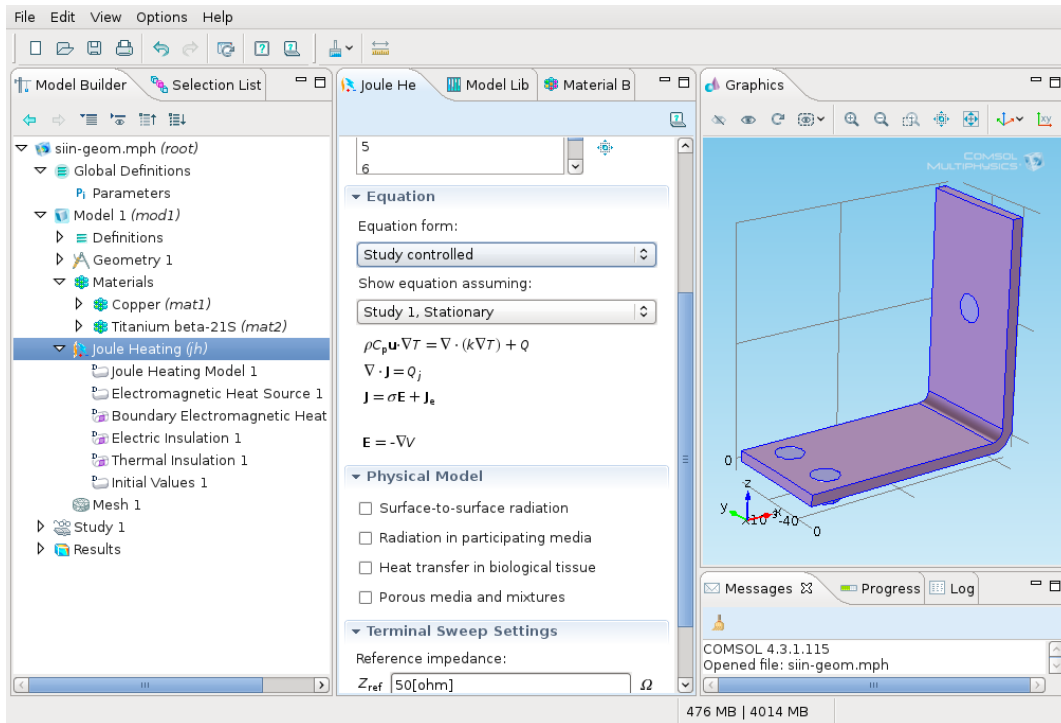

Figure 31: *Joule Heating*.
- The default form of the equations depends on the simulation type specified in the *Model Wizard*. In the case of the *Joule Heating* simulations the equations are shown in the form where they are solved in respect of the temperature and electrical potential (Fig. 31).